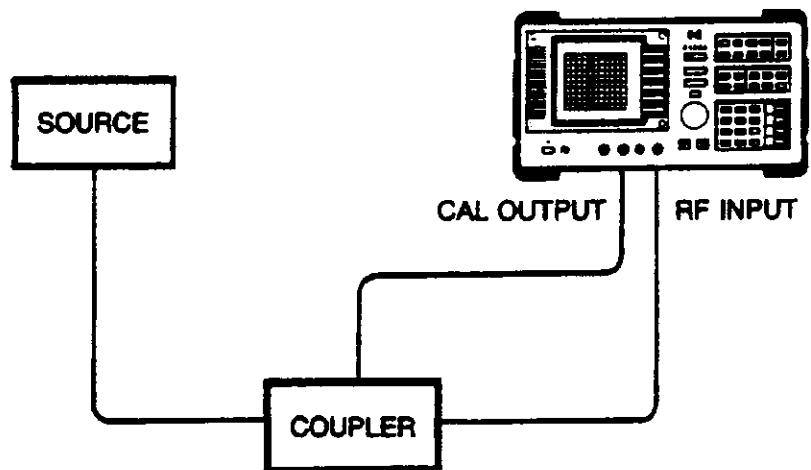

Figure 2-7
1. To obtain two signals with a 100-kHz separation, connect the calibration signal and a signal source to the spectrum analyzer RF INPUT as shown in Figure 2-7. (If available, two sources can be used.)